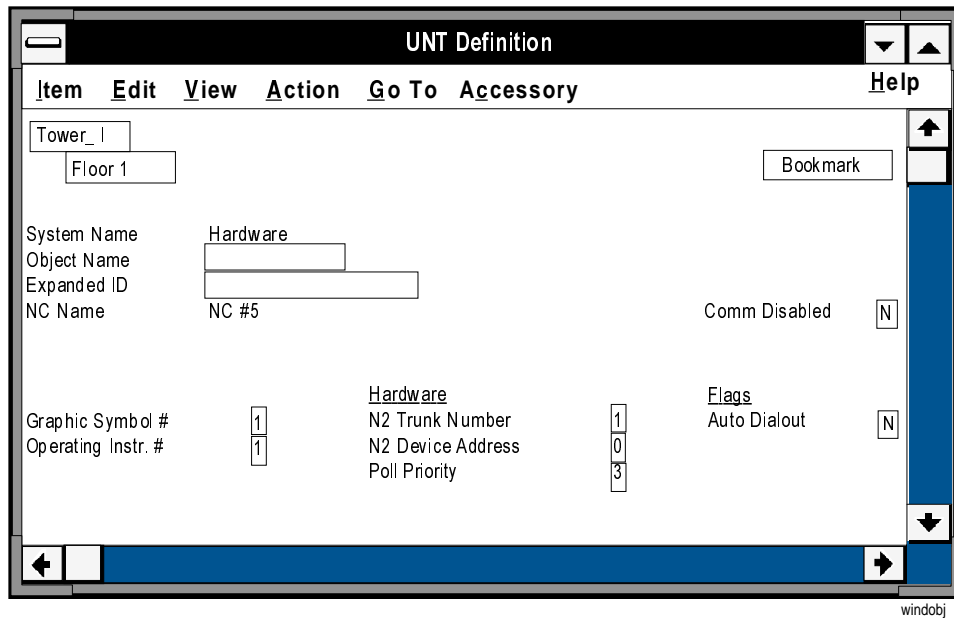

Figure 4: UNT Control-Device Object Definition Window
- Complete the attribute fields in the UNT Definition window (see Figure 4).